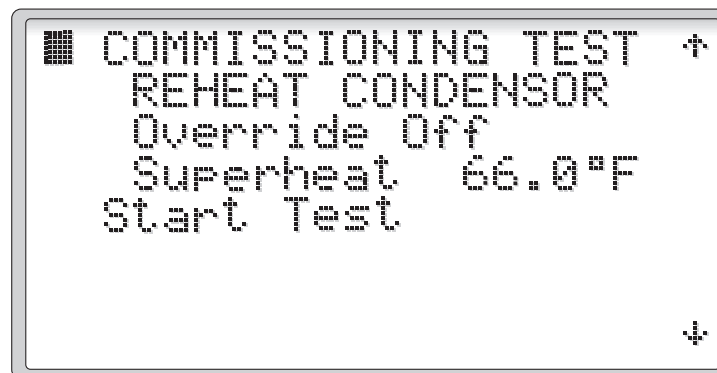

Figure 35
2.3.4.1.7 Commissioning Tests (Figures 35 - 37)
Selecting the COMMISSIONING TESTS from the Commissioning Menu displays the COMMISSIONING TEST screens. The Reheat and Remote or Cooling will have a separate test screen (Figures 35 and 36 respectively). Select the condenser to test and override it by setting the Override to 'On'. Insure that the superheat is stable before starting the test. Select 'Start Test' by pressing the **UP** key with the cursor over the 'Start Test' text. After 5 minutes, the average refrigeration data can be shown by pressing the **Prg** key. The average superheat as well as the high and low readings of superheat during this test are found by pressing the **UP** and **DOWN** key. Record this data on the startup form.